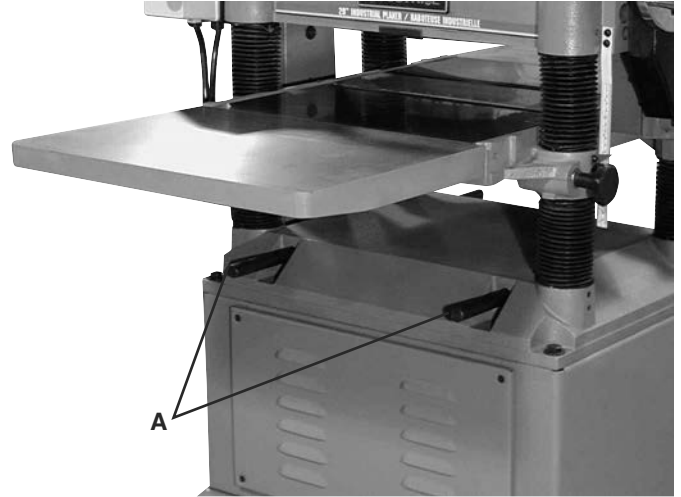

FIGURE 3
There are four lifting handles to facilitate the transportation of your Planer. All lifting handles are the pull out type. Pull the handles out for use, push them back in when not in use. Two of the lifting handles (A) are as shown in Fig.3.